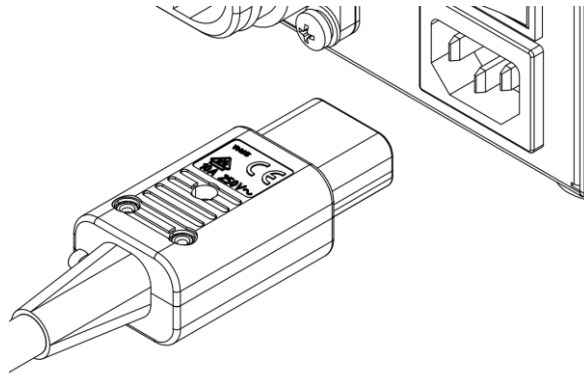

Figure 4-11 Power cable connection interface
- Step3. Connect the control cabinet. Insert the fret-shaped plug of the power cord into the power cord connection port of the control cabinet (see Figure 4-11).